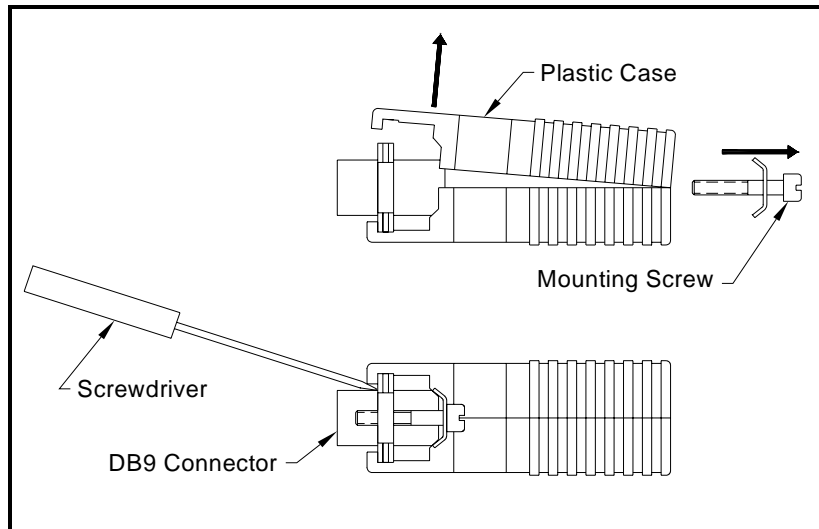

Figure 6-2: Opening the Converter Case
5. Use a small screwdriver to pry open the *plastic case* of the serial interface converter, as shown in Figure 6-2 on page 6-7.